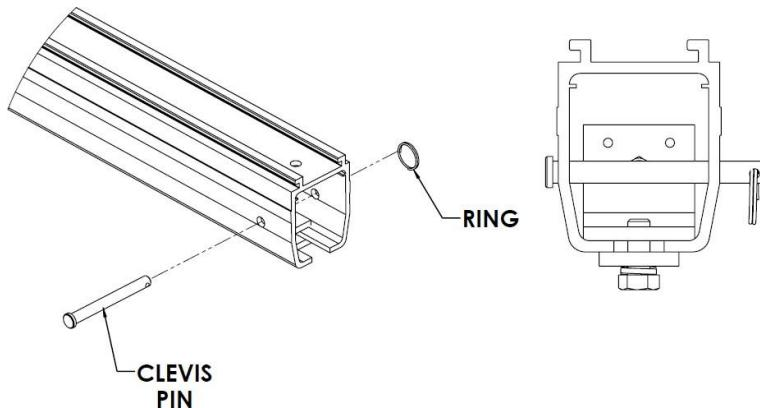

Figure 48: Clevis Pin and Ring Installed
- Make sure that the endstop clevis pins and rings are installed behind all endstops as shown in Figure 48.